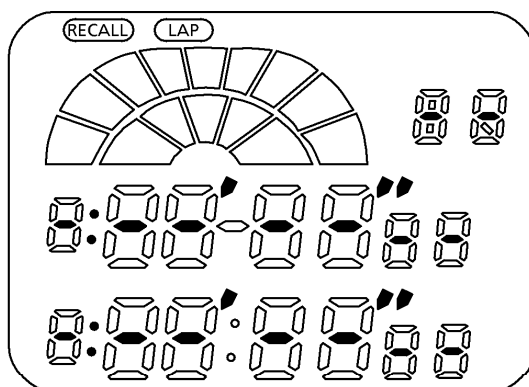

Fig.1
- (*) When an ALL CLEAR is executed and reset MEMORY RECALL mode is executed (when switching from split to lap in CHRONO mode), the display is as in Fig.1.